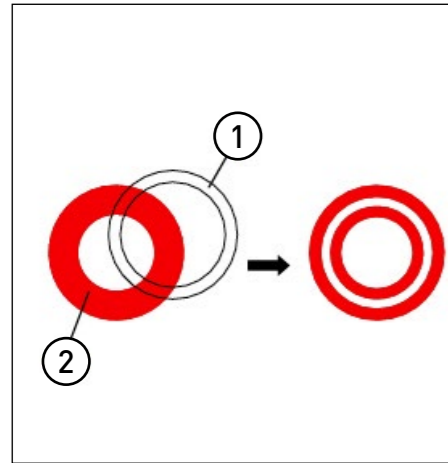

FIGURE 29
5.2.2 The centering ring (Fig. 29 & 30)